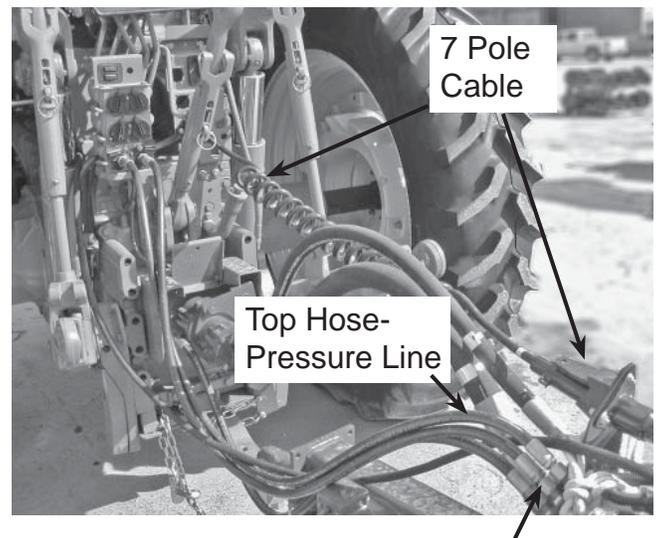

Figure 9 - Hose and 7-Pole Cable Connection
5. Connect the 2 hoses from the baler to tractor. Connect the pressure hose, top hose on the baler to the power cylinder extend port on the tractor (see Figure 9 and 10).
The middle hose is the tank return line on the baler and should not receive more than 25 psi of back pressure from the tractor when connected (see Figure 9 and 10). Connect the tank return line to the return cylinder retract port on tractor.
Connect 7 pole cable from baler to tractor (see Figure 9 page 5).